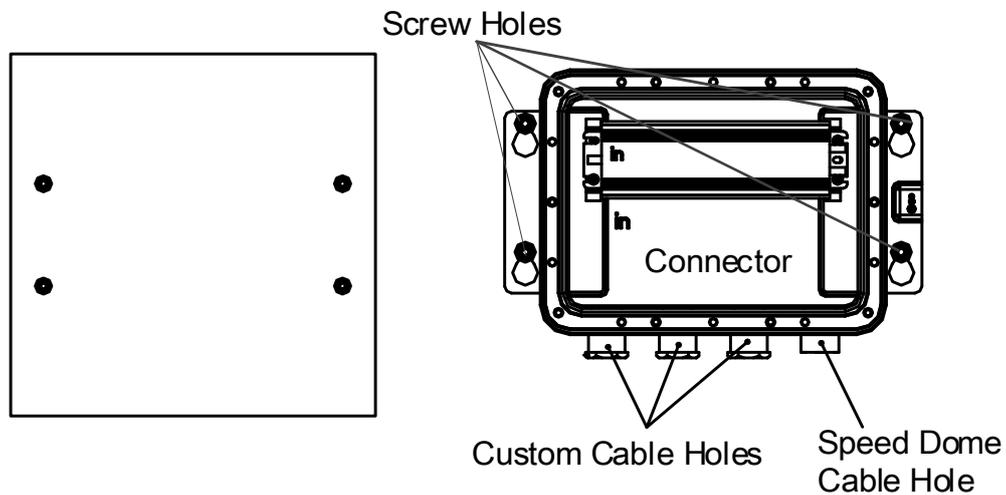

Figure 3-62 Install the Gang Box Type I
- 1) Drill 4 ϕ 9 screw holes for expansion screws as shown in Figure 3-62.